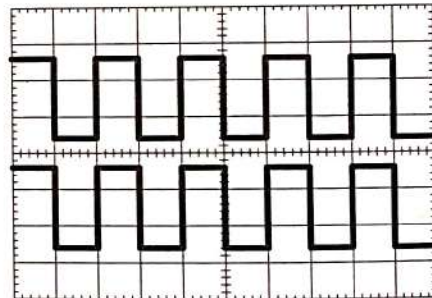

Fig. 4-4
Set the vertical mode to be DUAL mode and DUAL display mode is set to be ALT. the trace on CH2 would display on the screen. CH1 would display a square wave (from the calibrating signal) and CH2 would display a straight line (because no signals are input to the channel). Connect the calibrating signal to CH2 input and set AC-GND-DC to be AC mode. Adjust the vertical position ⑧ & ⑨ to get the waveforms shown as Fig. 4-4. The signals from CH1 & CH2 would be displayed alternatively on the screen, which can be used to observe the signals from two ways with short time sweeping. When the DUAL display is setting to be CHOP, the signals from CH1 & CH2 would be displayed on the screen separately with the speed of 250kHz, which can be used to observe the signals from two ways with long time sweeping. In two channels' operation, select the signals from CH1 or CH2 as the trigger signals by the trigger source selector in the mode of DUAL. If the signals from CH1 & CH2 are synchronized, the two waveforms can be